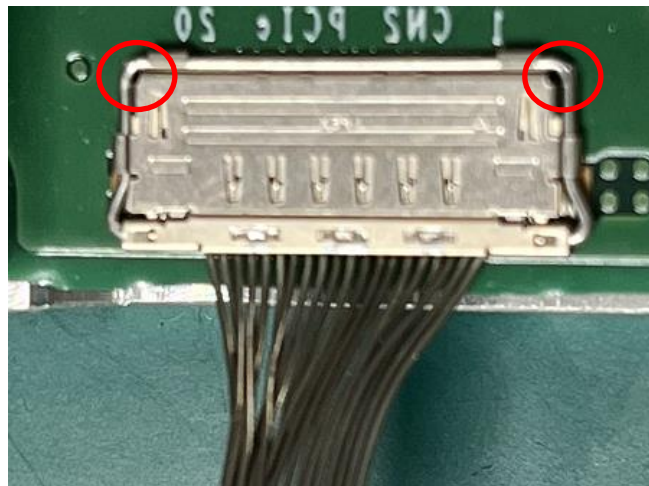

Figure 4-8 Locking cable connector for data interface
- ③ Push the red circles in Figure 4-8 toward the board side of this product at the same time, lower the lock bar of the receptacle connector, and lock it.